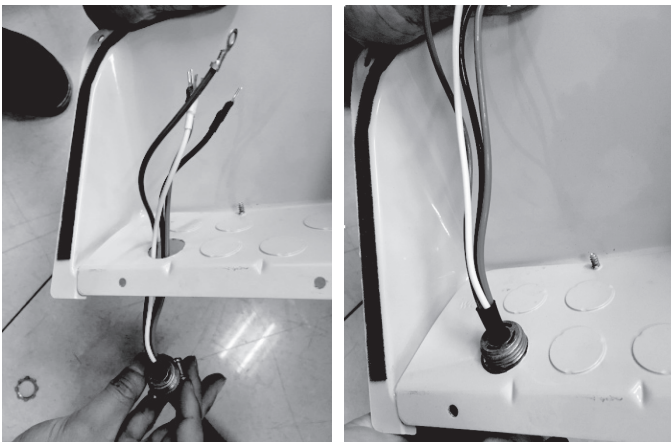

**Fig. 8.8**
1. Remove the screws from the electrical wiring cover from the outdoor condenser, as shown in the image below and **Fig. 8.8**, and remove it.
**ALL WIRING MUST BE INSTALLED STRICTLY IN ACCORDANCE WITH THE WIRING DIAGRAM LOCATED ON THE INSIDE OF THE OUTDOOR CONDENSER WIRE COVER AS SHOWN IN FIG. 8.8.**